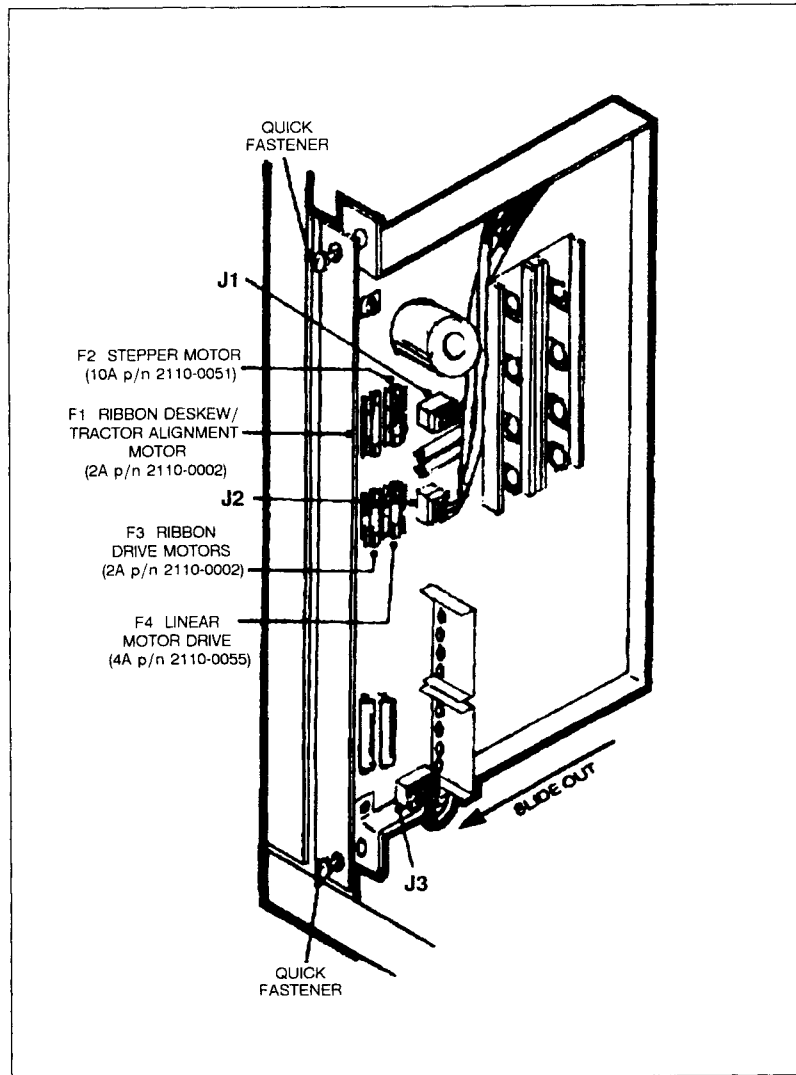

Figure 6-9. Motor Driver PCA
- a. Switch the printer offline and the ON/OFF switch to the OFF (0) position.
- d. Remove the wire connectors from J1, J2 and J3 (see Figure 6-9).